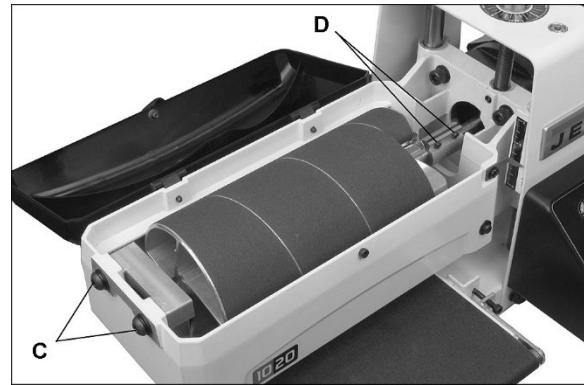

Figure 9-2: drum removal
1. Remove two socket head screws (C, Figure 9-2) on the bearing block.
2. Loosen two screws on the coupling (D, Figure 9-2).